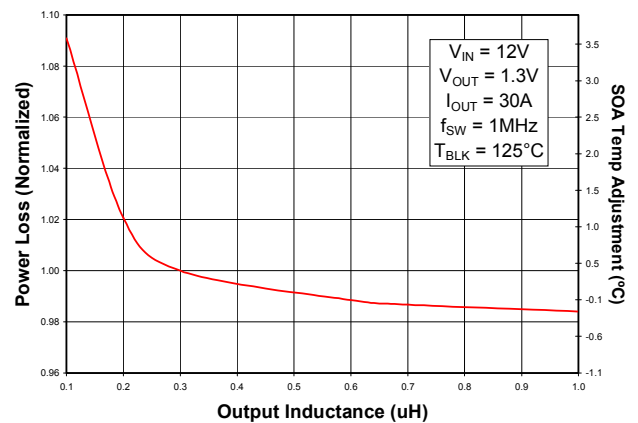

Fig. 6: Normalized Power Loss vs. Inductance
- (Fig. 6) Normalized power loss for inductor value ≈ 1.02
- (Fig. 6) Normalized SOA Temperature for inductor value $\approx 1.1^{\circ}\text{C}$